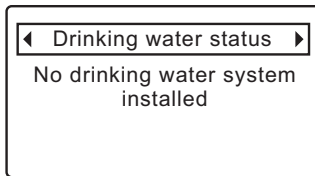

FIG. 58
If a communications-capable drinking water filtration (RO) system has been added to the remote, it will have its own status screen displayed during normal operation. Otherwise, a drinking water status screen will display a message like the one shown in Figure 58.
1. Press the remote's LEFT (◀) or RIGHT (▶) buttons to manually advance to the **Drinking water status** screen (See Figure 58).